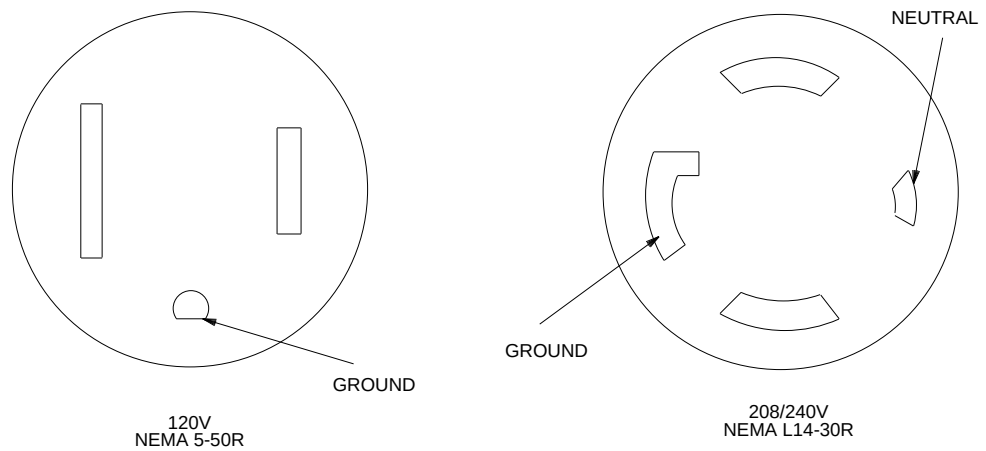

Figure 4-6. AC Receptacle
1. Set KS-20599, list 4 digital voltmeter (VM), or equivalent, to AC voltage range scale greater than 250 VAC.
2. See Danger. Measure voltage at receptacle (Figure 4-6).